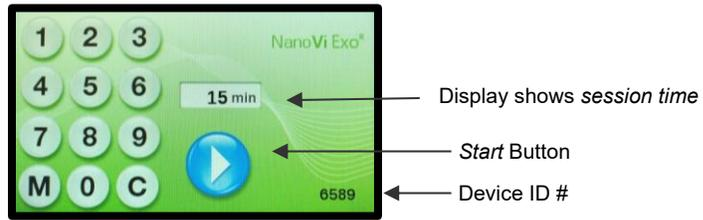

Fig. 7.2: "Start"-Screen in Standard Mode
Upon completion of the self-test, the “Start”-Screen (Fig. 7.2) appears allowing you to enter the number of minutes for the session time. Enter the desired session time by touching the appropriate numbers on the touch screen. The minutes are shown in the session time display in the center of the screen.
*Stop* Button terminates a session at any time. Stopping the session takes you back to the "Start"-Screen (Fig. 7.2).
Insert Owner Card when the monitor shows the self-test is finished in the Initial "Splash"-Screen and the monitor has changed to one of the three "Start" Screens for *Standard-Mode* (Fig. 7.2), for *Infinity-Mode* (Fig. 8.4) or the "User Card Request"-Screens (Fig. 8.7) for one of the two *User-Card-Modes*.
Insert Owner Card when the monitor shows the self-test is finished in the "Initial Splash Screen" and the monitor has changed to one of the three "Start Screens" for Standard Mode (Fig. 7.2), for Infinity Mode (Fig. 8.4) or the "User card Request Screen" (Fig. 8.7) for the two User Card Modes (Fig. 8.7, Fig. 8.11).
When all the mode selector buttons are blank, press the “Page up” button to switch to the “Start”-Screen in *Standard Mode* (Fig. 7.2). Take out the Owner Card.
To operate in *Standard-Mode* make sure that all the mode selector buttons are blank and press the “Page up” button to switch to the “Start”-Screen in *Standard-Mode* (Fig. 7.2). Take the Owner Card out.